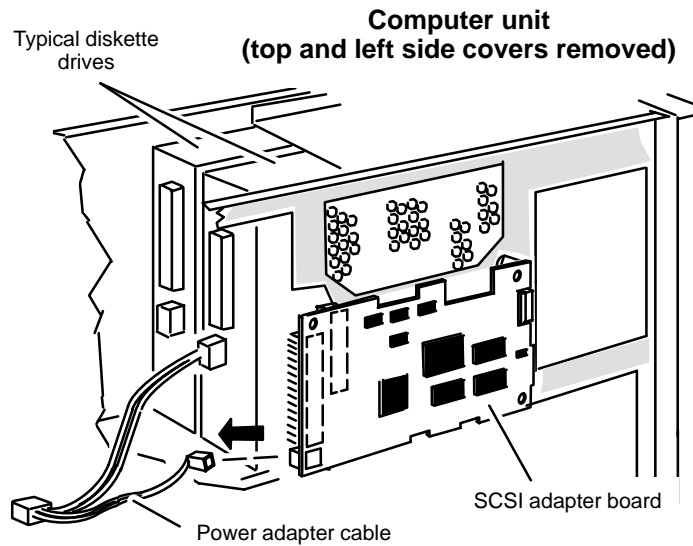

Figure 7-15 Unplugging the Power Adapter Cable from the SCSI Adapter Board
2. Unplug the power adapter cable from the SCSI adapter board as shown in Figure 7-15.